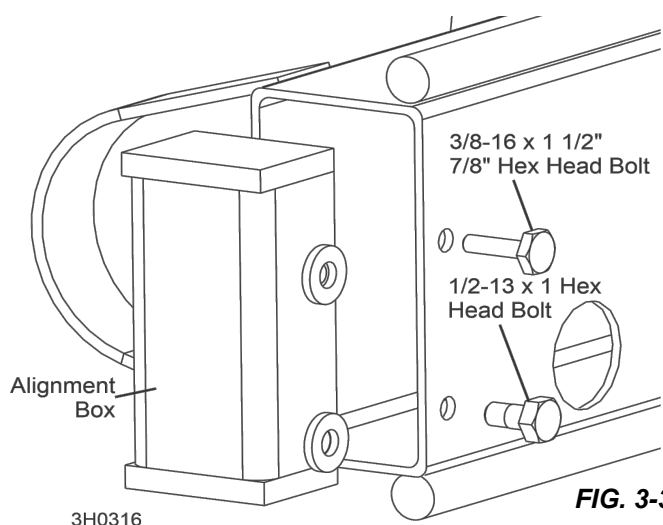

FIG. 3-3
2. Use a 1/2-13 x 1" bolt in the bottom hole and a 3/8-16 x 1 1/2" bolt in the top hole. **See Fig. 3-3.**